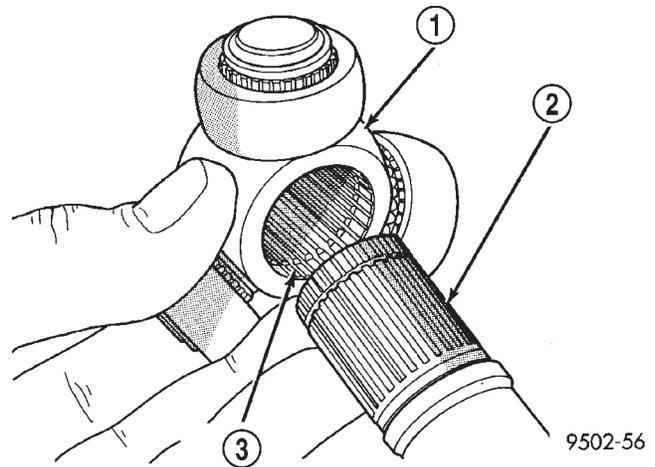
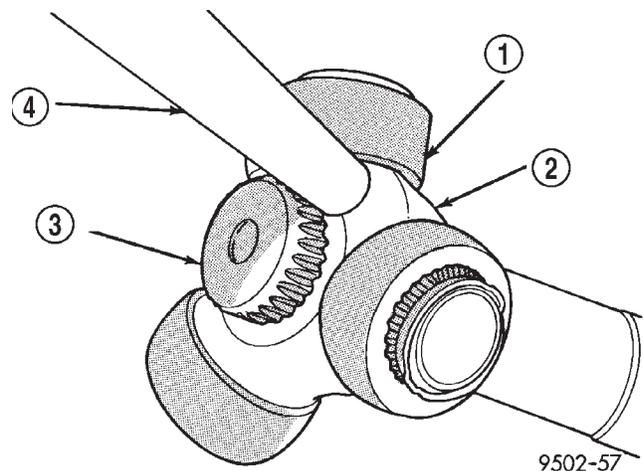

Fig. 23 Spider Assembly Installation on Interconnecting Shaft
Fig. 24 Installing Spider Assembly On Interconnecting Shaft
(2) Install spider assembly onto interconnecting shaft with chamfer on spider assembly toward interconnecting shaft (Fig. 23). Spider assembly must be installed on interconnecting shaft far enough to fully install spider retaining snap ring. If spider assembly will not fully install on interconnecting shaft by hand, it can be installed by tapping the spider body with a brass drift (Fig. 24). **Do not hit the outer tripod bearings in an attempt to install spider assembly on interconnecting shaft.**